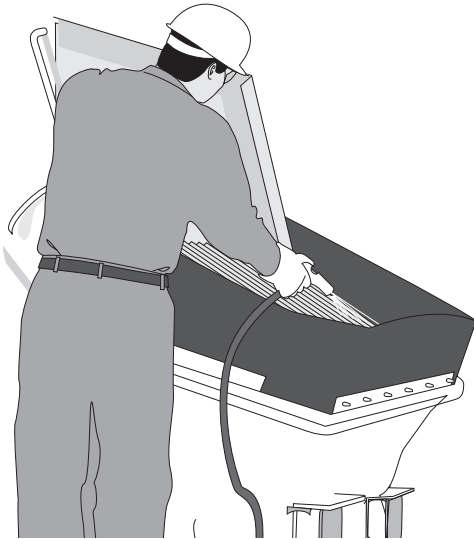

Figure 19
- Spray water into the hopper from above the hopper grate (Figure 19).